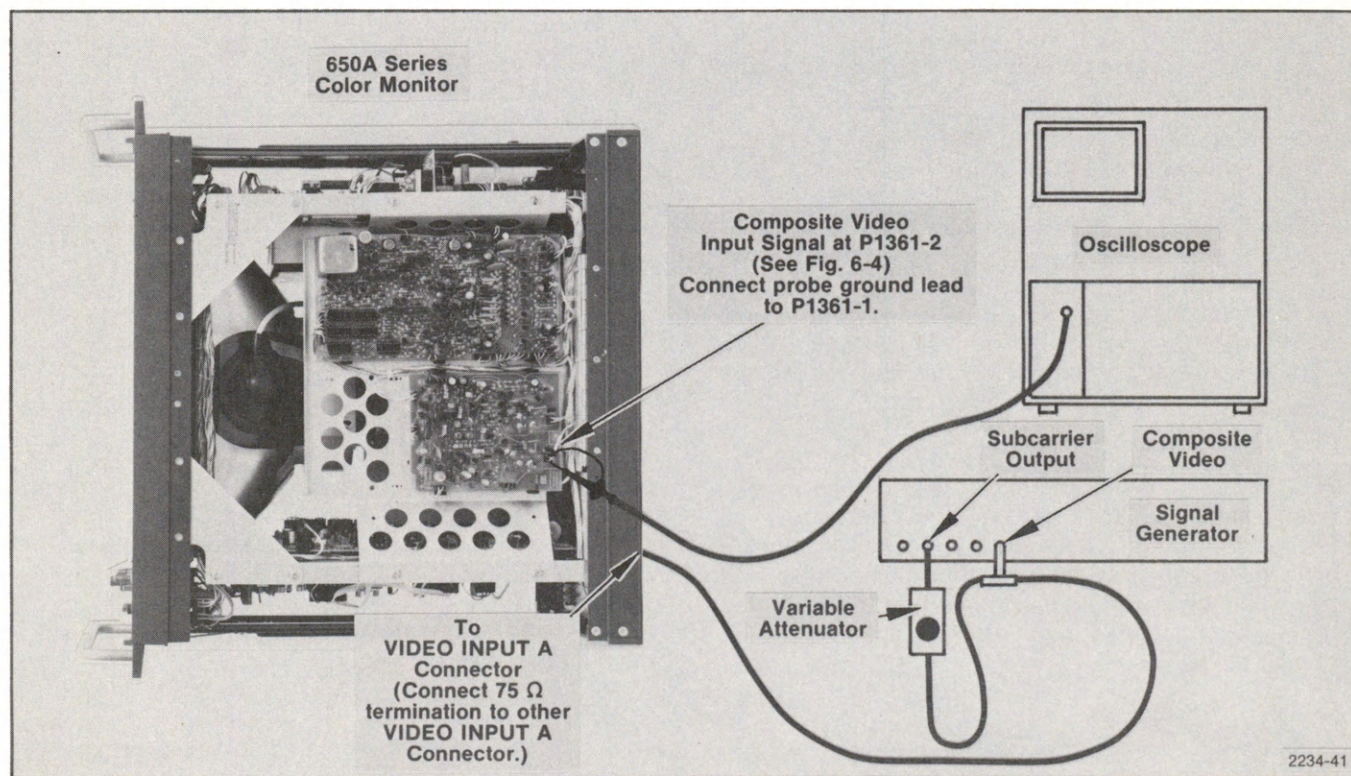

Fig. 6-25. Setup for checking residual subcarrier.
b. Insert a BNC T connector between the generator and the coaxial cable going to the picture monitor. Connect the generator subcarrier signal through a variable attenuator to the BNC T connector. Use the oscilloscope to monitor the composite video signal applied to the monitor. Fig. 6-25 illustrates the setup.